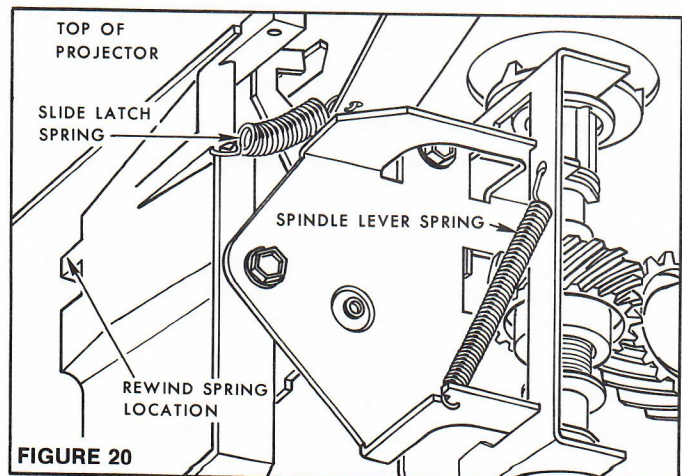

FIGURE 20
3. Remove the SLIDE LATCH SPRING from the casting, Figure 20.